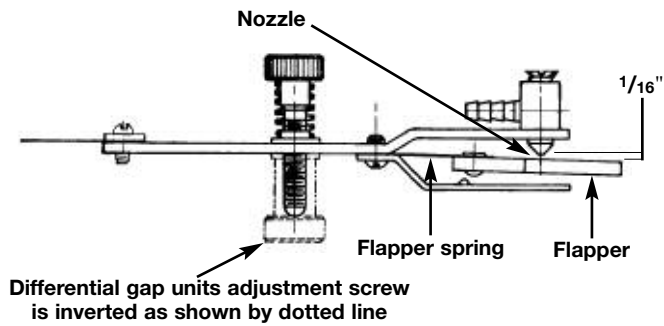

Figure 17
2. Damaged or bent flapper spring. The flapper should stroke approximately $\frac{1}{16}$ " away from the nozzle in the free hanging position. If it does not, carefully bend the spring down with a screwdriver forcing the flapper away from the nozzle. Refer to Figure 17.